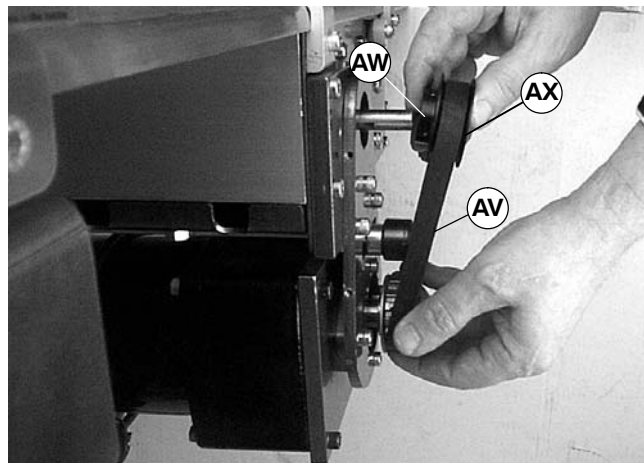

Figure 26
NOTE: If timing belt (AV) does not slide over pulley flange, loosen driven pulley set screws (AW of Figure 26) and remove pulley (AX) with belt.